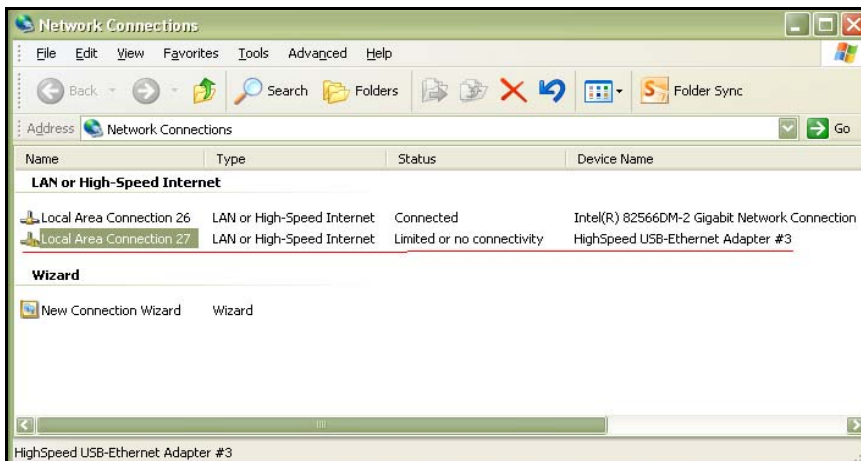

Figure 47: Network Properties with New Base Station
- c. The USB Adapter will be detected and Network properties will show a new connection as shown in Figure 47 below.